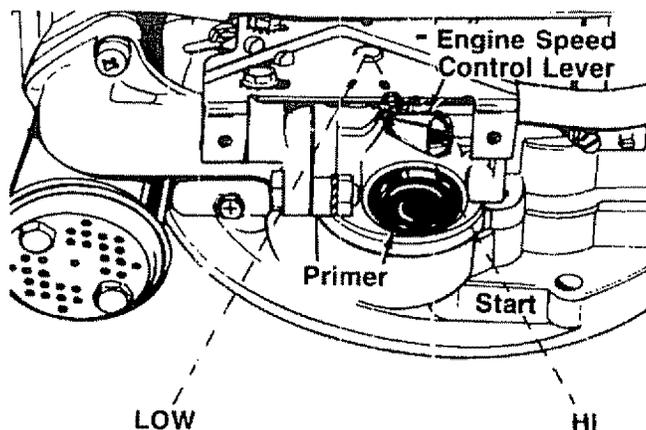

FIGURE 9.
- Press primer button as follows (cold starts only). For each initial start, push primer button five (5) times prior to starter operation. See figure 9. Use sharp pushes, wait between each push. Repeat the above for each starter operation as necessary. Do not use primer for warm engine restarts.